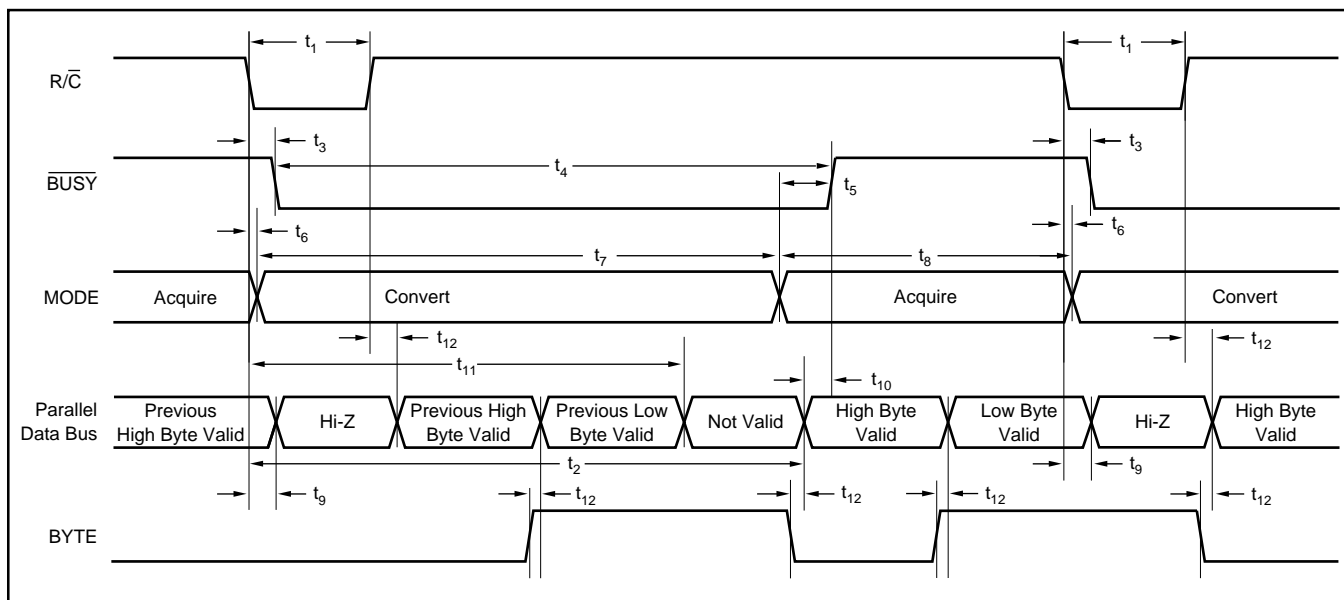

FIGURE 2. Conversion Timing with Parallel Output ($\overline{\text{CS}}$ and DATACLK tied LOW, $\overline{\text{EXT/INT}}$ tied HIGH).
The ADS7807 will begin tracking the input signal at the end of the conversion. Allowing 25μs between convert commands assures accurate acquisition of a new signal. Refer to Tables II and III for a summary of \overline{CS} , R/\overline{C} , and $BUSY$ states, and Figures 2 through 6 for timing diagrams.
NOTE: (1) See Figures 2 and 3 for constraints on data valid from conversion 'n – 1'.
After conversion 'n' is completed and the output registers have been updated, $\overline{\text{BUSY}}$ (pin 24) will go HIGH. Valid data from conversion 'n' will be available on D7-D0 (pins 9-13 and 15-17). $\overline{\text{BUSY}}$ going high can be used to latch the data. Refer to Table V and Figures 2 and 3 for timing constraints.
After conversion 'n' has been initiated, valid data from conversion 'n - 1' can be read and will be valid up to $12\mu\text{s}$ after the start of conversion 'n'. Do not attempt to read data beyond $12\mu\text{s}$ after the start of conversion 'n' until $\overline{\text{BUSY}}$ (pin 24) goes HIGH; this may result in reading invalid data. Refer to Table V and Figures 2 and 3 for timing constraints.